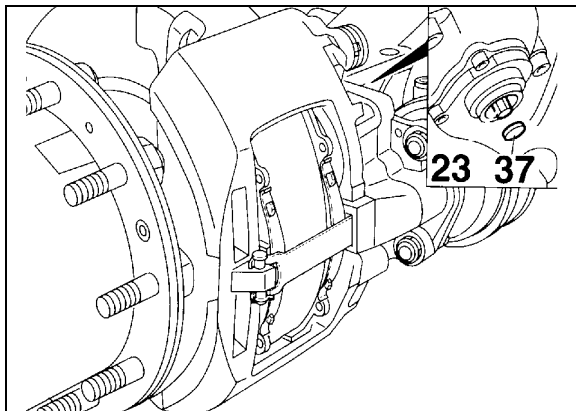

FIGURE 25: ADJUSTER PINION 12120
- Remove cap (37, Fig. 25).
- Using a box wrench (8 mm), turn the adjuster pinion (23, Fig. 25) counterclockwise about 2-3 clicks to increase running clearance. By operating the braking system about 5-10 times (30 PSI or 2 bar), the
wrench should turn clockwise in small increments if the adjuster is functioning correctly (Figs. 25 and 26).